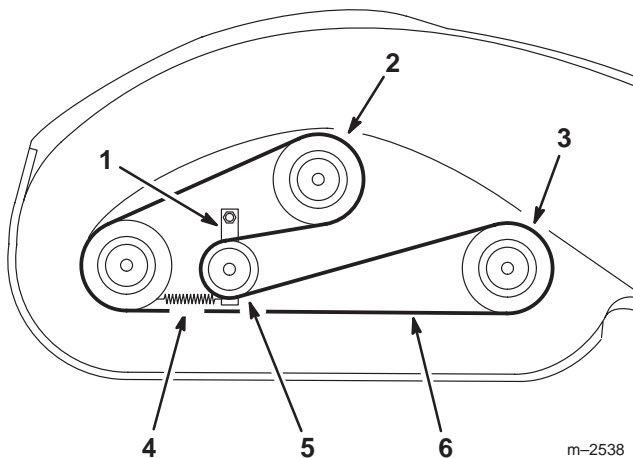

Figure 47
4. Disconnect the idler arm spring to relieve tension on the idler arm and idler pulley, then remove the worn deck belt (Fig. 47).
5. Install the new deck belt around the two outboard spindle pulleys, the idler pulley, and in the lower groove of the center spindle pulley (Fig. 47).
6. Reconnect the idler arm spring (Fig. 47).